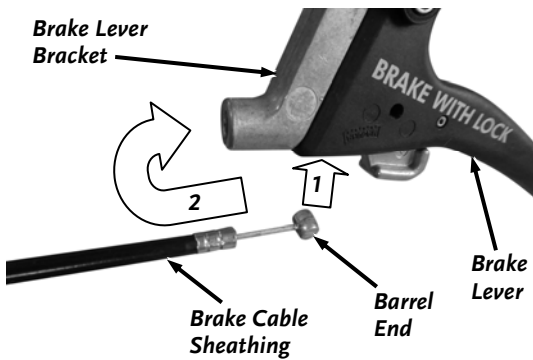

Figure 13
15. Insert the barrel end of the Brake Cable into the hole in the bottom of the Brake Lever (1) (**Figure 13**). Insert the Brake Cable Sheathing into the hole at the front of the Brake Lever Bracket (2).